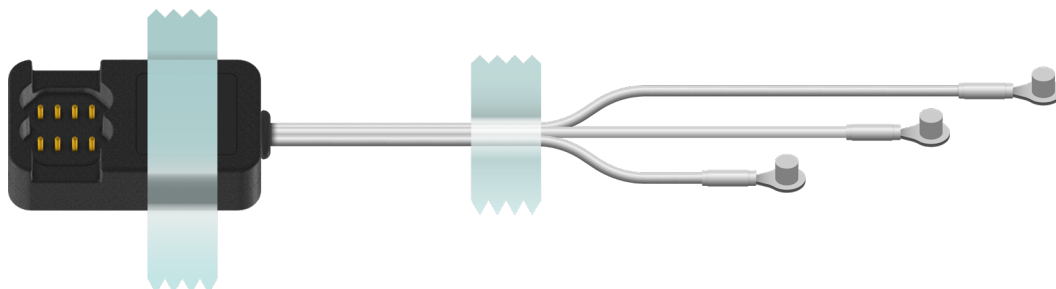

Figure 6
- a. Tape or wrap all cabling and control units before inserting the inner socket into the frame. Nylon wrap tape is included (Figure 6).